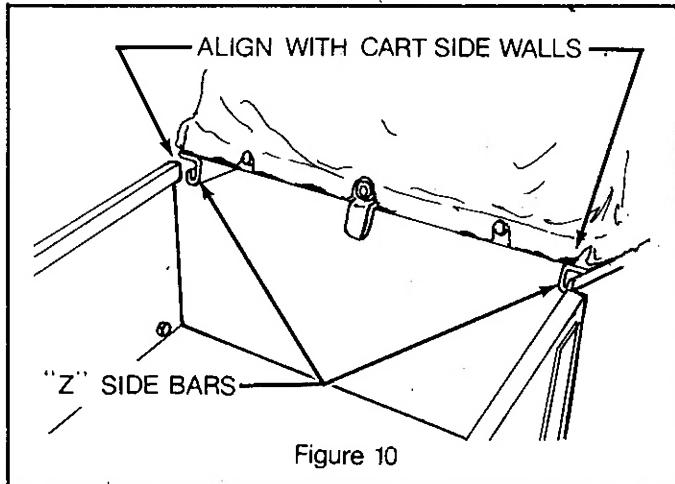

Figure 10
- Unfold the canvas and frame assembly so that the front and rear uprights are in a vertical position. Align the side "Z" bars with the cart side wall upper edges and slide the assembly forward onto the cart (Figure 10). Be sure that the front of the cover frame is toward the front of the cart. Turn the front catch down over the front edge of the cart.